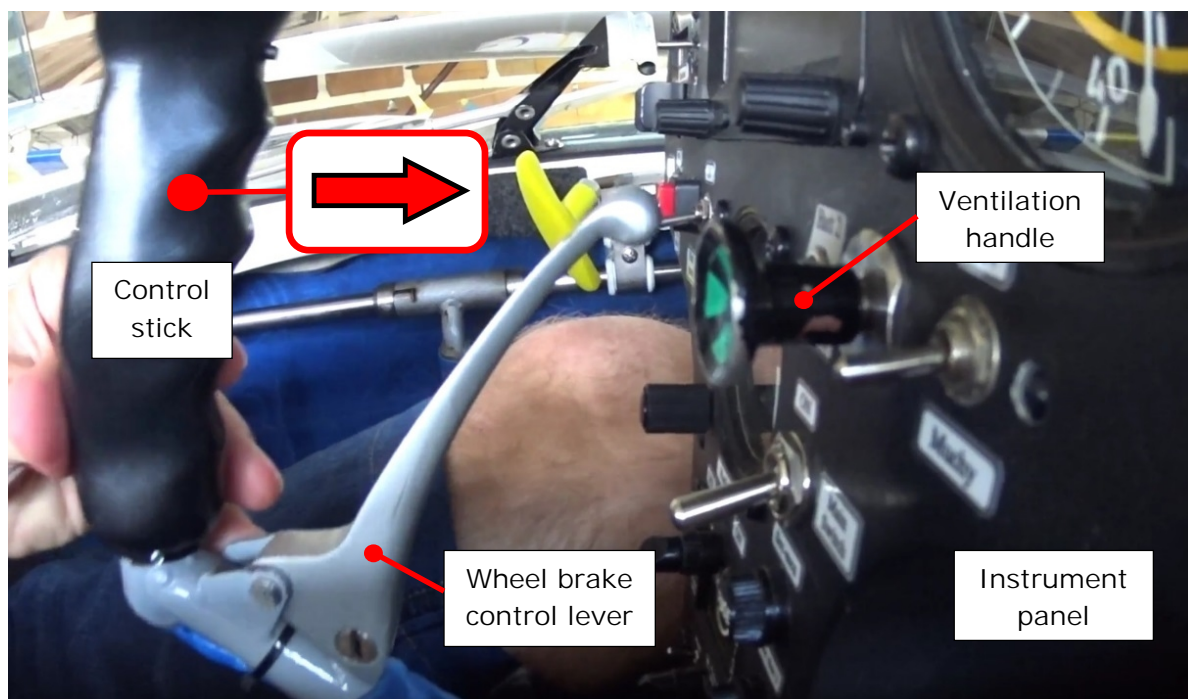
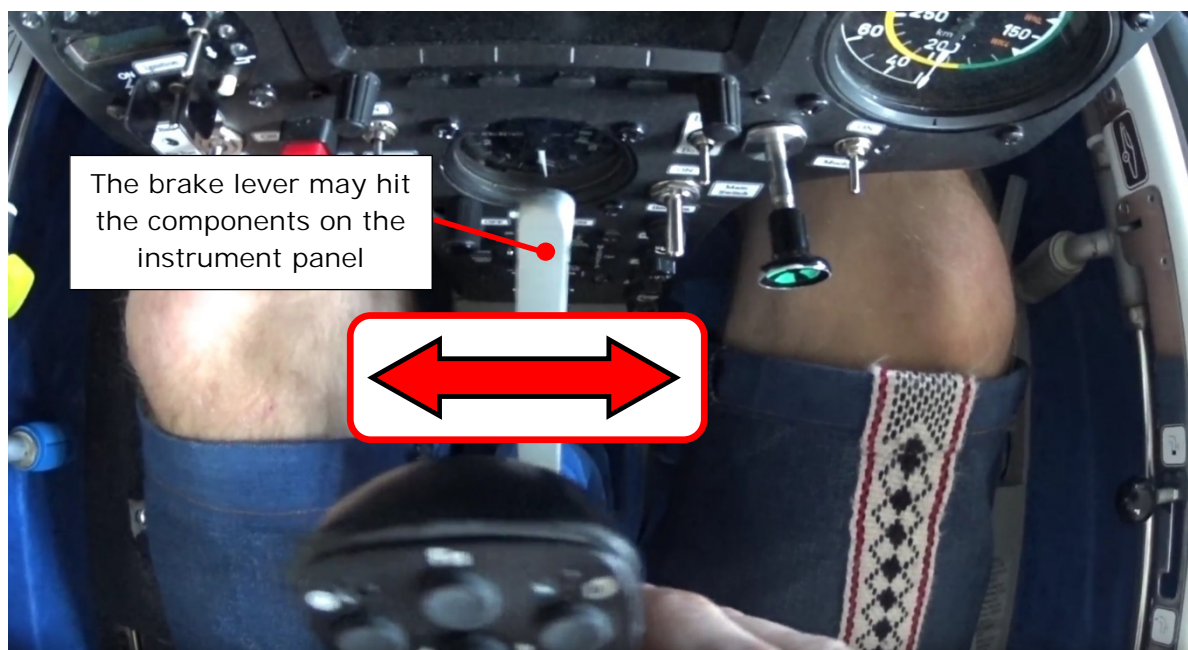

Figure 1. Move the control stick to the most forward position (direction of the arrow)
Figure 2. Turn the control stick in both sides in the full range of motion
- 2) Move the control stick to the most forward position and turn it from the left to the right in the full range of motion and opposite - from the right to the left. Make sure the wheel brake is released, the control lever is in its forward position. Check if the wheel brake control lever doesn't hit or touch ventilation handle or any other switch on the instrument panel. See the Figure 1. and Figure 2. for the detailed explanation.